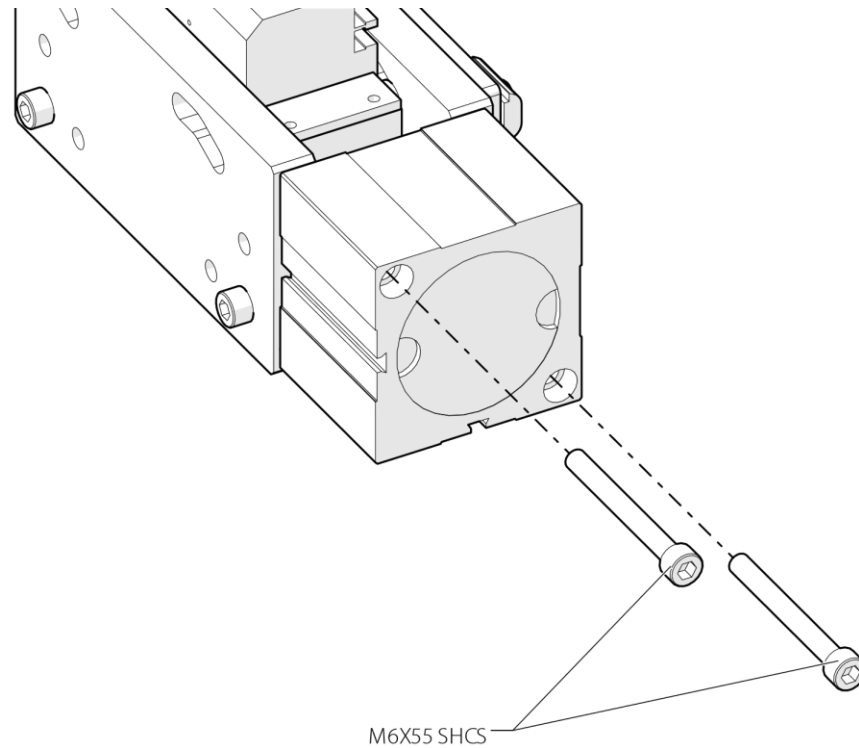

Figure 38: Removing M6X55 SHCS
Step 4: Remove M6X55 SHCS securing P-00711 shown in Figure 38.